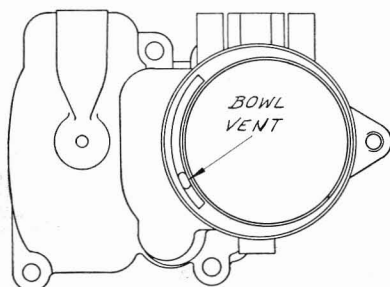

Figure 5
27. Insert C77-8 bowl vent tube, if required, into the bowl vent (top side) and tap firmly into place with a light hammer. (See Figure 5 and Note C on last page.)